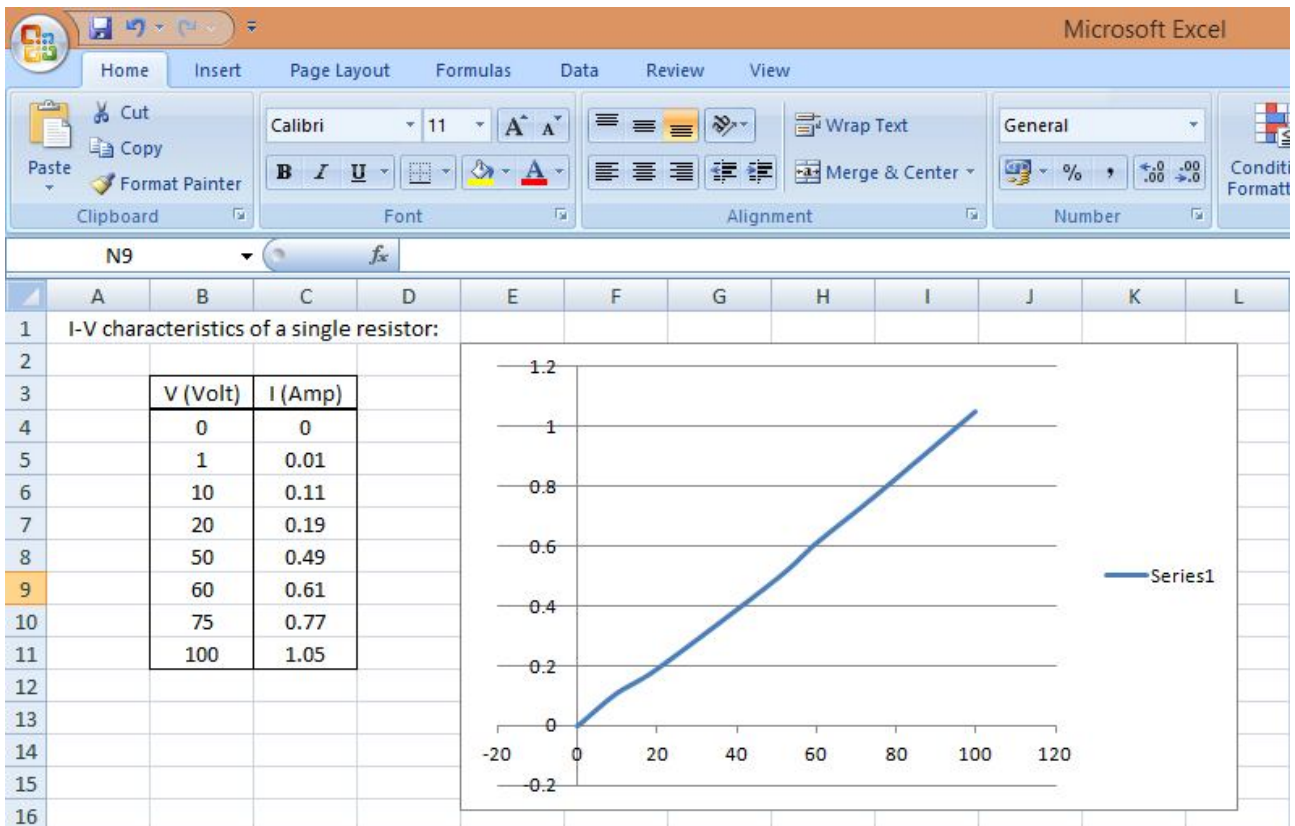

Figure 4
4. After clicking on the option mentioned in step-3, we get the expected graph. Refer Figure 4.